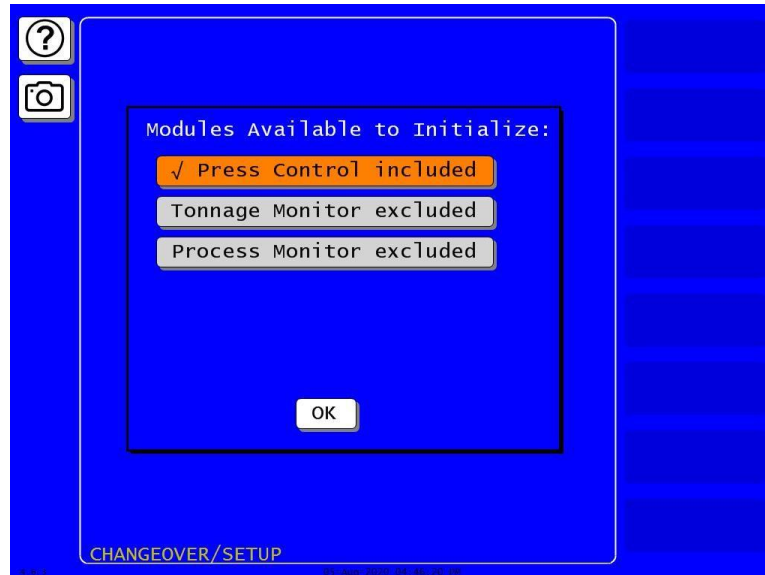

Figure 3-31. Modules, Press Control Selected
- If you are sure you want to clear this module's data, press OK. The module button turns orange and is labeled "[Module Name] included," Figure 3-31. This means the module's data *will* be cleared.